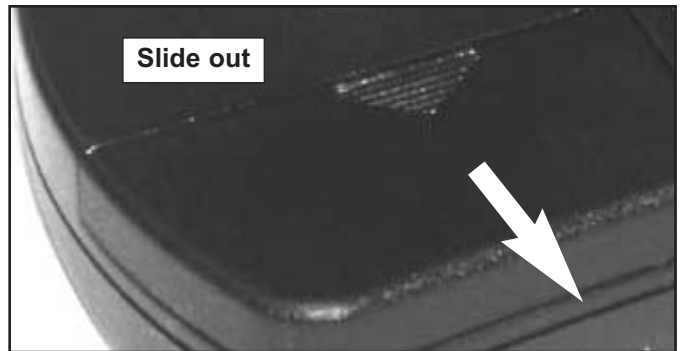

FIG. 8-1 Open battery cover.
- To open gently push straight out on battery cover lock tab as shown. (Fig. 8-1).